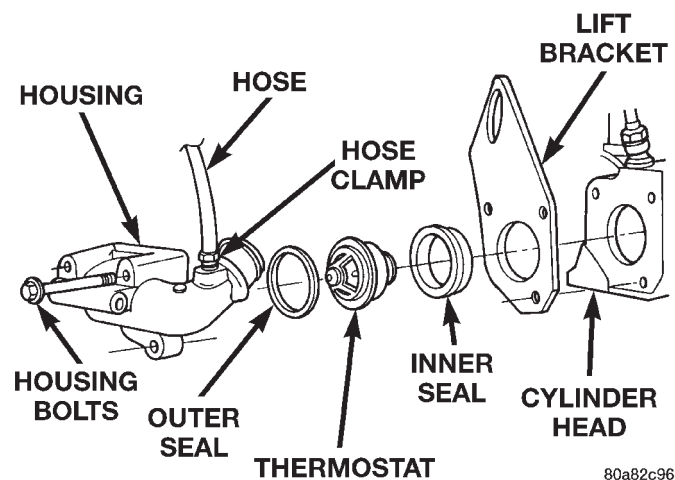
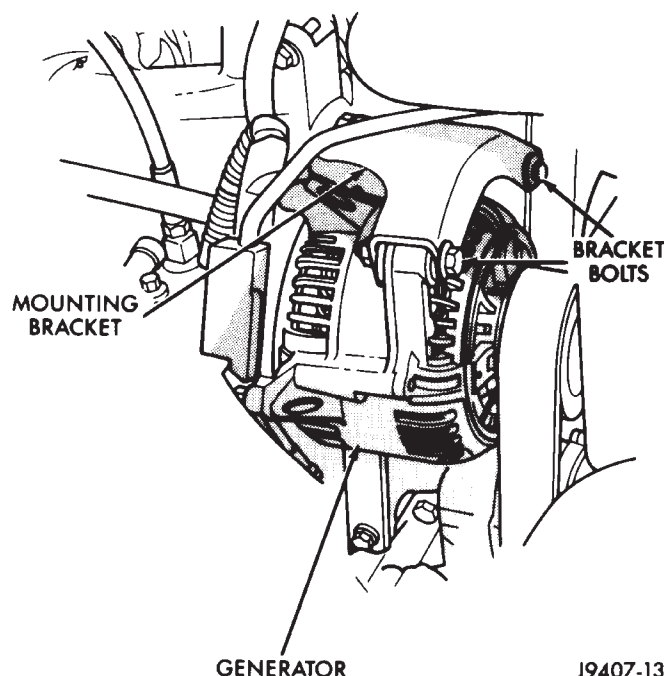
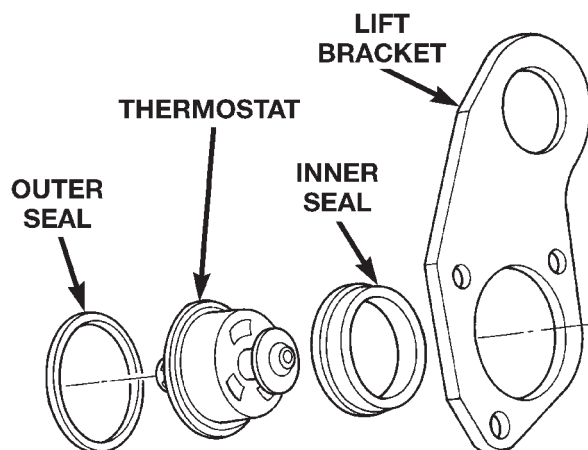

Fig. 74 Thermostat Removal—5.9L Diesel
Fig. 75 Generator Mounting Bracket Bolts—Diesel
Fig. 76 Thermostat Seals—5.9L Diesel—Typical
(4) Remove radiator hose clamp and hose from thermostat housing. A special clamp tool must be used to remove the constant tension clamps.
(5) Remove the hose clamp and check valve hose at thermostat housing (Fig. 74).
(6) Remove the two upper generator bracket mounting bolts (Fig. 75).
(7) Remove the upper generator mounting bracket (Fig. 75).
(8) Loosen but do not remove the generator lower pivot bolt.
(9) Position the generator to gain access to thermostat housing and housing bolts.
(10) Remove thermostat housing mounting bolts.
(11) Remove the thermostat housing, thermostat, inner and outer seals and lift bracket (Fig. 74).
(1) Install the outer seal (Fig. 74) (Fig. 76) into the machined shoulder on the thermostat housing.
(2) Install the thermostat into the machined shoulder next to the outer seal. Note direction of thermostat in (Fig. 74) (Fig. 76).
(3) Position the inner thermostat seal with the shoulder towards the thermostat housing (Fig. 76).
(5) Position generator to thermostat housing. Install and tighten mounting bolt to 24 N·m torque. Tighten pivot bolt to 43 N·m (32 ft. lbs.) torque.
(6) Install the check valve hose and hose clamp at thermostat housing (Fig. 74).
(7) Install accessory drive belt. Refer to Belt Removal/Installation in the Engine Accessory Drive Belt section of this group.
(8) Connect negative battery cables to both batteries.
(9) Fill cooling system and check for leaks. Refer to Refilling Cooling System in this group.